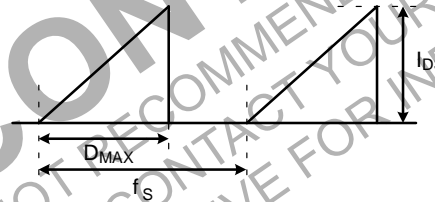

Figure 4. Repetitive Peak Switching Current
4. Repetitive peak switching current when the inductive load is assumed: Limited by maximum duty ($D_{MAX} = 0.73$) and junction temperature (see Figure 4).